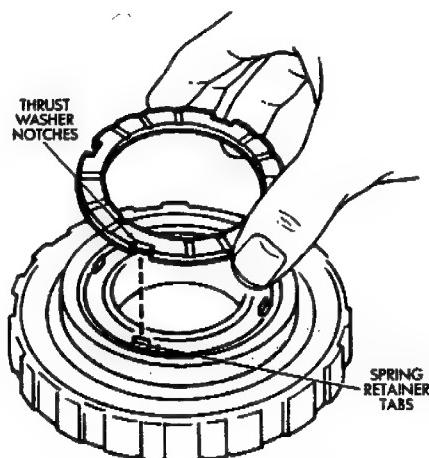

Fig. 8 Installing Thrust Washer
(5) Coat thrust washer with petroleum jelly and install it in drum. Be sure washer notches are aligned with tabs on spring retainer (Fig. 8).
(6) Set brake components aside for final assembly.